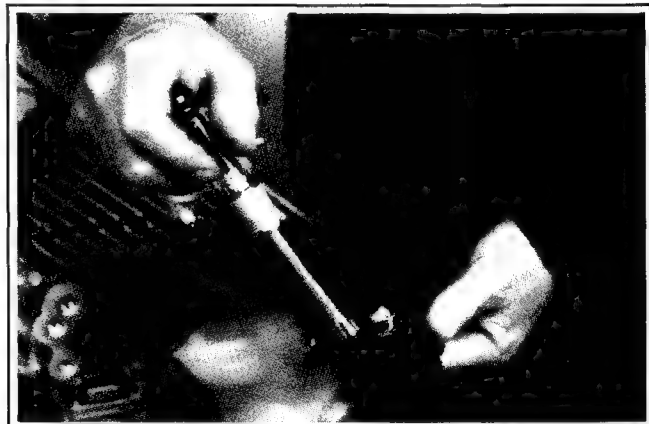

Figure 9-37. Breather Stop and Reed Removal.
5. Remove the screw securing the breather stop and reed. See Figure 9-37.